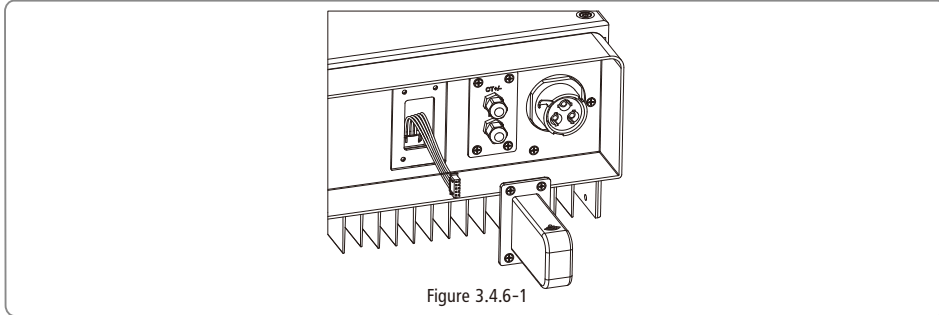

Figure 3.4.6-1
- Insert cable into the WiFi BOX. please refer to Figure 3.4.6-1.